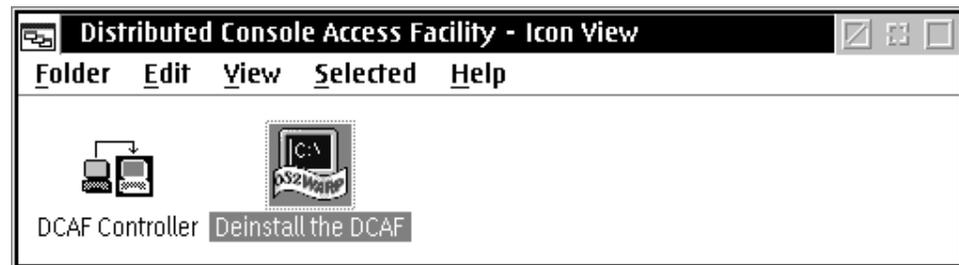

Figure 152. Distributed Console Access Facility - Icon View
3. Select **DCAF Controller** (Figure 152).